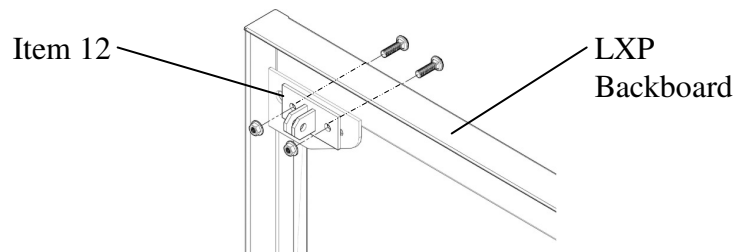

Figure 3
7. Attach the backboard brace brackets (item 12) to the top corners of the backboard as shown in figure 3. Use the 3/8-16 x 1" carriage bolts with whizlock nuts for this assembly.